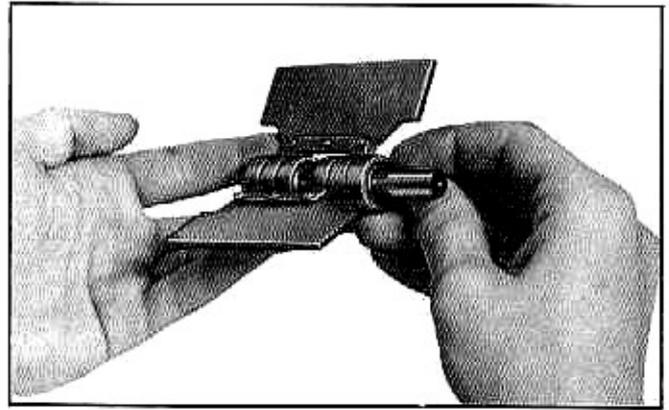

Fig. 15—Assemble Van Assemblies on Rod
2. Position vanes on a 3/8" x 4" rod as shown (fig. 15).